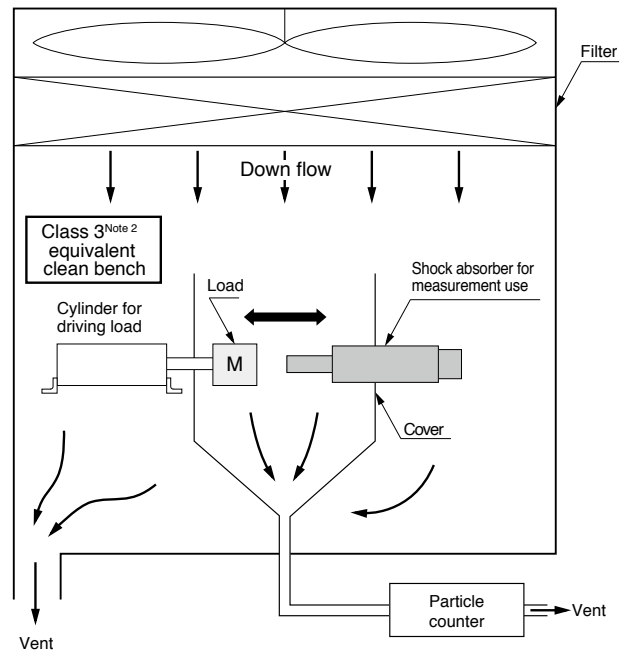

Figure 1
1. We measure particles in the clean bench (Figure 1) without activating the shock absorber for measurements and the load driving cylinder in the clean bench (background measurement).Note